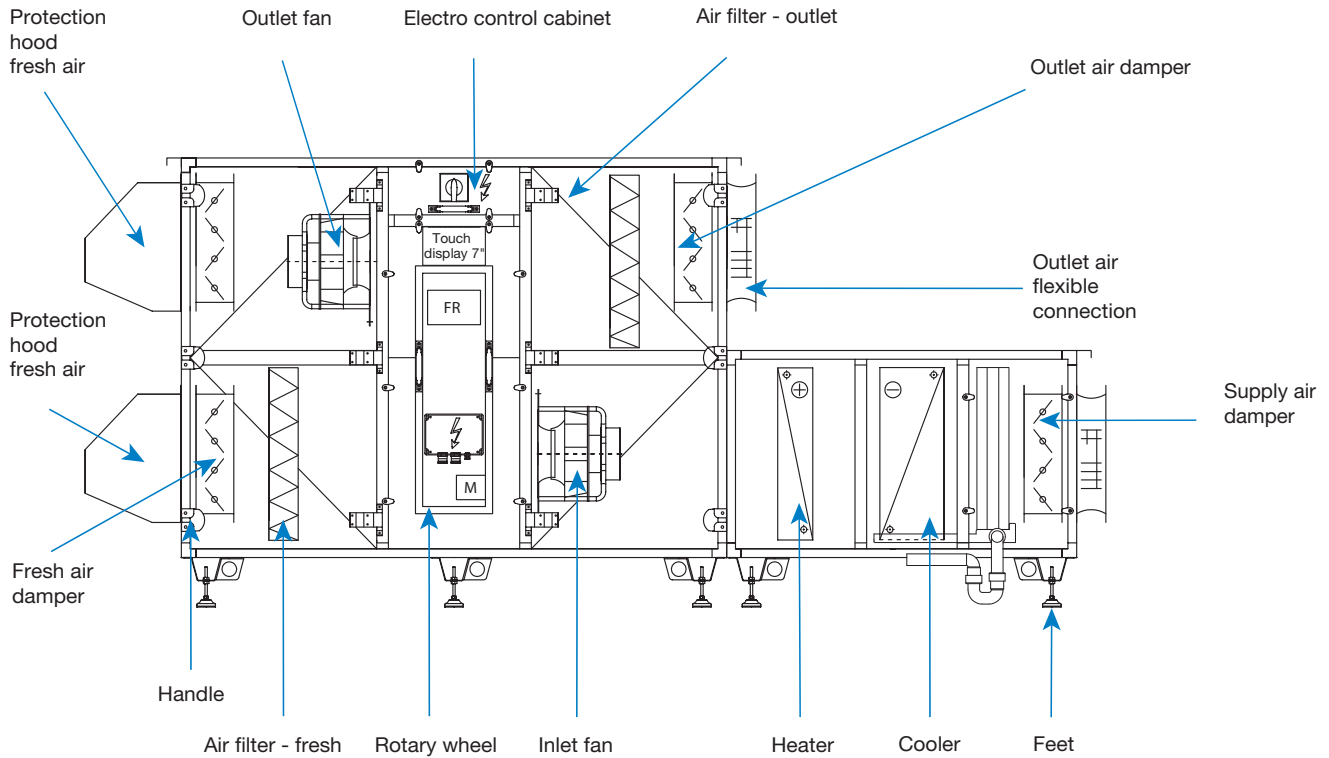

Figure 29
**Horizontal connections:** with side connections and all optional sections – Figure 29.